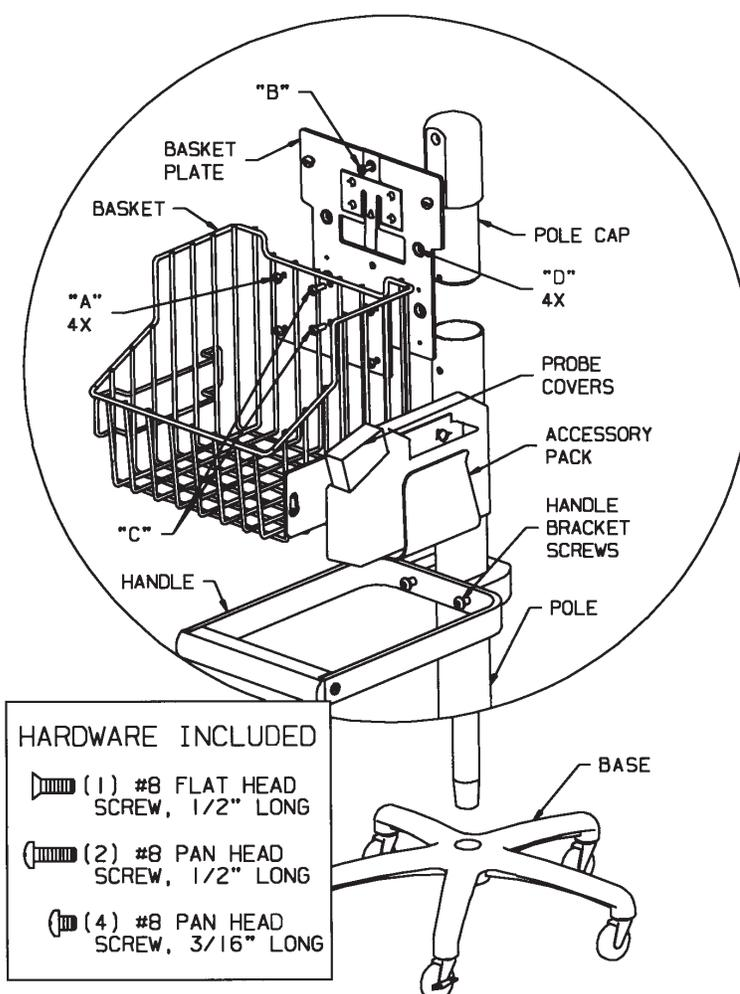

Figure 1
(Refer to figure 1 for the following instructions)
4) Assemble BASKET to BASKET PLATE by inserting (4) #8 X 3/16" long phillips screws through four holes designated "A". Securely tighten screws.
5) Assemble BASKET PLATE to POLE CAP using (1) #8 x 1/2" long phillips flat head screw inserted through top hole "B" in BASKET PLATE and into top threaded hole in POLE CAP. Do not securely tighten screw.
6) Align two "C" holes in BASKET with corresponding holes in POLE and insert (2) #8 x 1/2" long phillips screws. Securely tighten these screws and screw assembled in step 5.
8) *For Model #5200-60 only*, attach ACCESSORY PACK by orienting as shown in figure 1 and inserting onto side plate of BASKET and pushing up. This will lock ACCESSORY PACK onto BASKET.